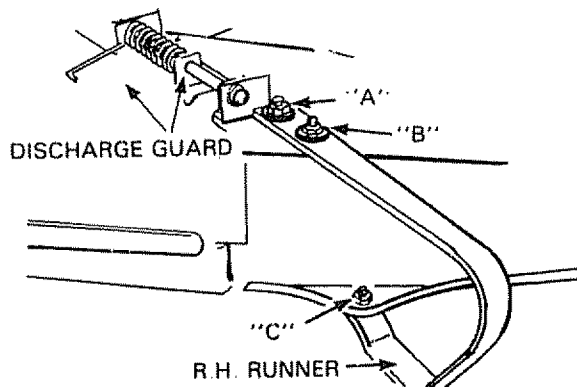

FIGURE 6
10. Using a 1/2" wrench remove hardware "A", "B" and "C" (Fig. 6) securing R.H. runner to mower housing. Hardware may be discarded.